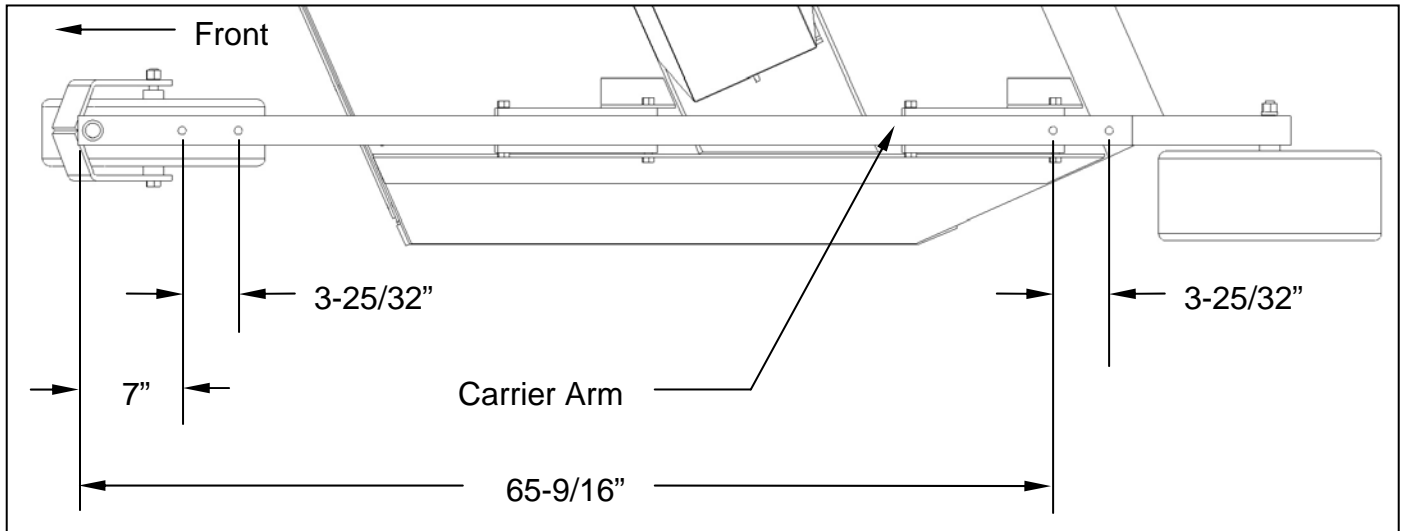
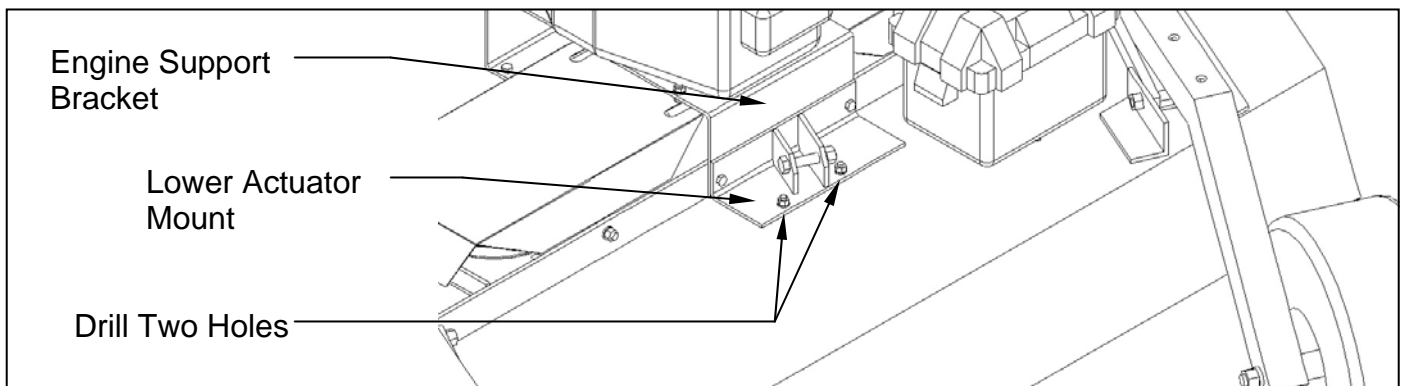

Figure 1. Carrier Arm Hole Location
Figure 2. Lower Actuator Mount Assembly
A. CARRIER ARM PREPARATION (Refer to Figure 1.)
1. If your mower's carrier arms currently have the designated holes shown in Figure 1, refer to section B. If the electric lift kit and mower were purchased from the manufacturer at the same time and the lower actuator mount assembly is currently installed (See Figure 2), refer to section C. For carrier arm, rear wheel and tongue installation, refer to the main owner's manual.
B. LOWER ACTUATOR MOUNT ASSEMBLY INSTALLATION (Refer to Figure 2.)
2. Remove the two 5/16" x 3/4" bolts and two 5/16" x 1" bolts from the lower actuator mount assembly. Position the lower actuator mount assembly on the deck as shown in figure 2 and align the holes on the lower actuator mount, engine support bracket and deck frame. Insert the two 5/16" x 1" bolts and fasten securely with lock washers and nuts.